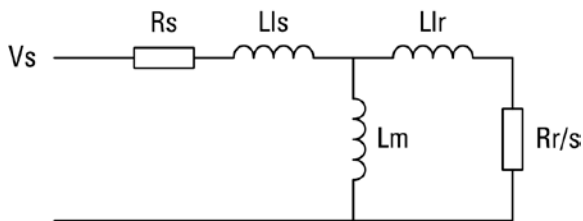

Figure 22 AC motor single-phase equivalent circuit
- A value for each of the electrical parameters of the induction motor as shown in Figure 22.